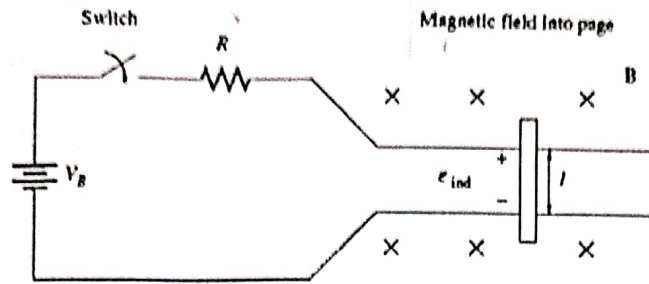

FIGURE 1-19 A linear dc machine. The magnetic field points into the page.
3. Kirchhoff's voltage law for this machine. From Figure 1-19 this law gives